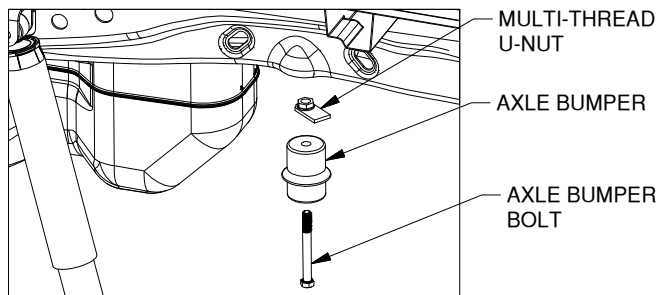

Figure A1: View looking into driver side wheel well.
- 2. Remove axle bumper in trucks older than 2009.** Remove axle bumper bolt, axle bumper, and multi-thread U-nut using a 13mm socket from the underside of the frame on the driver and passenger sides of the vehicle. See Figure A1. This provides an access hole for the fish wire when installing the side plate hardware. The axle bumper and hardware will be re-attached after installation is complete.